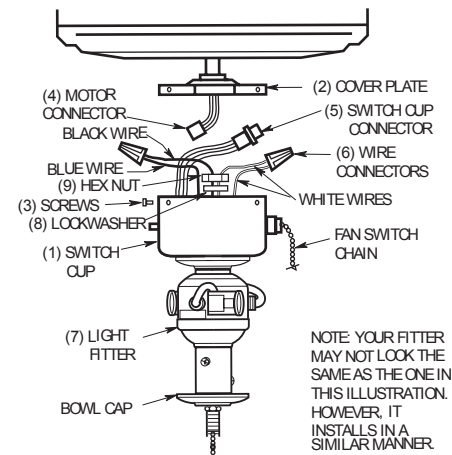

Figure 2
6. Insert the black and white wires from the light fitter(7) through the center hole in the switch cup (Figure 2) and thread the switch cup onto the light fitter. Hold wires taut while installing switch cup to prevent the wires from twisting.
7. Insert the black and white wires through the lockwasher(8) and hex nut(9) supplied. Firmly tighten the hex nut to secure the light kit fitter to the switch cup.
8. Connect the white neutral wire from the switch cup to the white neutral wire of the light fixture(Figure 2). Connect the blue line(hot)wire from the switch cup to the black line(hot)wire of the light fixture. Use listed wire connectors (previously removed in step 5) to make connections(Figures 2 and 3). The neutral and line (hot) wires must be installed as instructed to maintain proper polarity at the lampholders.
9. Carefully tuck all wires and splices into the switch cup(1). (Figure 2.)
10. Connect the motor connector(4) to the switch cup connector(5).
11. Position the switch cup(1) and fitter assembly(7) on the cover plate(2) and install the three screws(3) that were previously removed in Step 2 and tighten securely.